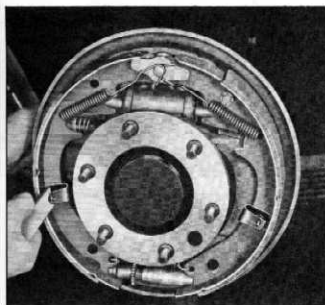

Fig. 22—Remove Holddown Pins and Springs
5. Remove brake shoe hold down pins and springs using tool J-4712 (fig. 22).